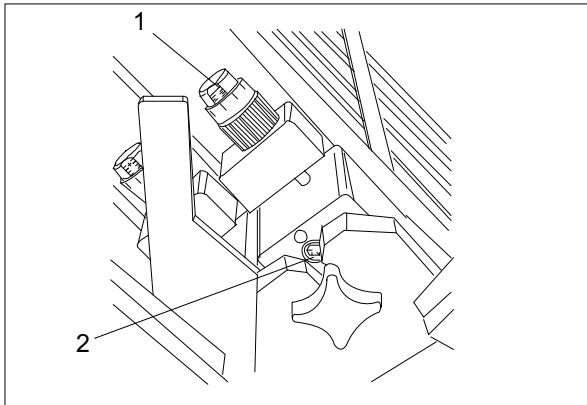

Fig. 55 Adjustment of fold plate position
There is a micrometer screw (Fig. 55/1) for adjusting the fold plate position at the left- and right-hand side of each buckle plate.
1. Loosen the Allen screws (Fig. 55/2) on both sides by turning them counter-clockwise.
4. Secure the new position by tightening the Allen screws (Fig. 55/2) on both sides.